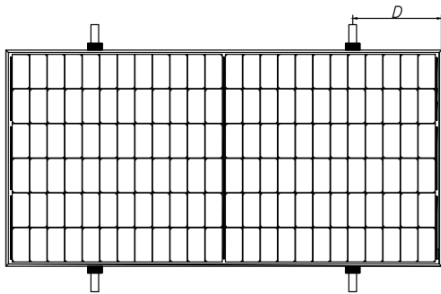
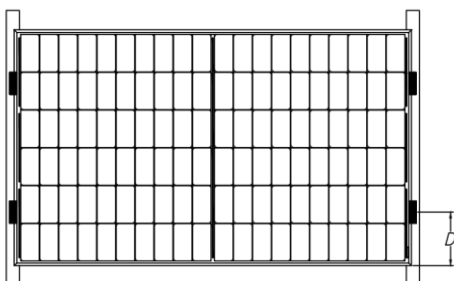
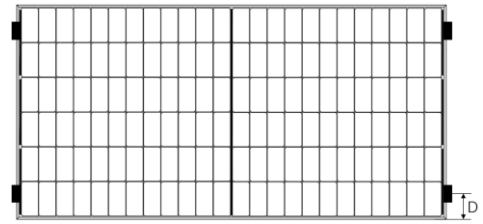
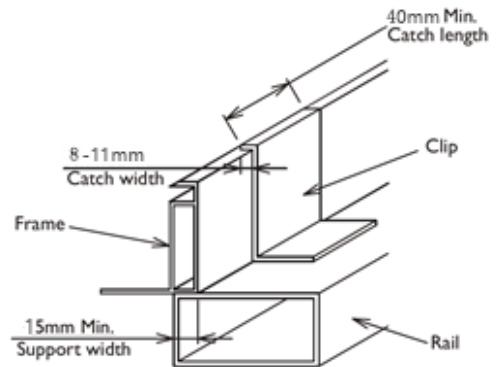

Fig. 11 Rails vertical to the long-side frame
Fig. 12 Rails overlapping the short-side frame
Fig. 13 Four clamp mounting on short side of frame
Fig.17 Mounting requirements for rails overlapping the short-side frame
Photovoltaic modules can be installed across the support frame (Fig. 11) or parallel to the frame of the photovoltaic module (Fig. 12). PV modules can also be installed with four fulcrums (Fig 13). When using clamps to install, each module must be secured with a minimum of 4 clamps.
- ⑧ For the installation method shown in Fig. 12, the module needs to be fixed with professional clamps (as shown in Fig. 17), and the overlap between the C side of the module and the rail should be ≥ 15 mm. Astronergy's limited warranty will be void if improper clamps or improper installation is used.